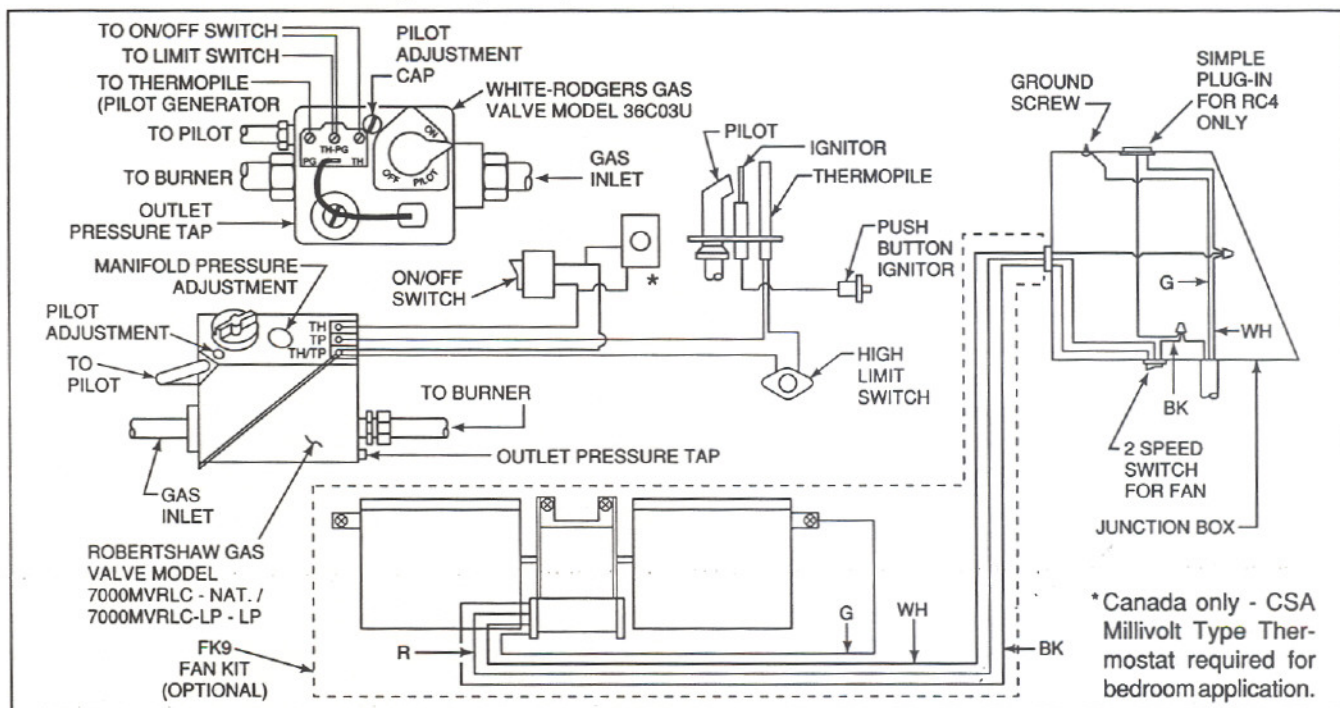

Figure 3
Accessories for this appliance require a 110V power supply. The appliance must be electrically wired and grounded in accordance with local codes or, in the absence of local codes, with National Electric Code ANSI/NFPA 70-latest edition or, in Canada, the current CSA C22.1 Canadian Electrical Code. If an optional FK9 Fan Kit or RC4 Remote Control Kit are to be installed, follow the wiring diagrams that are provided with these accessories and Figure 3.
### LIGHTING PROCEDURE (See Figure 3)
1. Remove the pilot adjustment cap. See Figure 3.